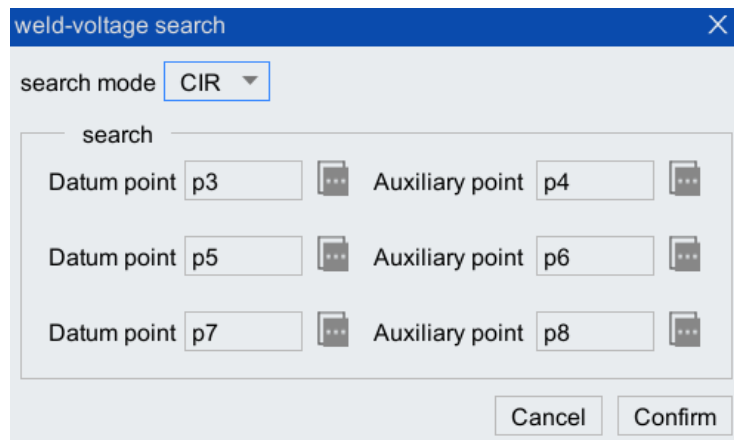

Figure 7-42 Voltage search configuration interface
Step1. Click [Insert cmd/Function Pack/weld/Weld Command/voltage search] to enter the arc offset auxiliary programming instruction interface. As shown in Figure 7-42.